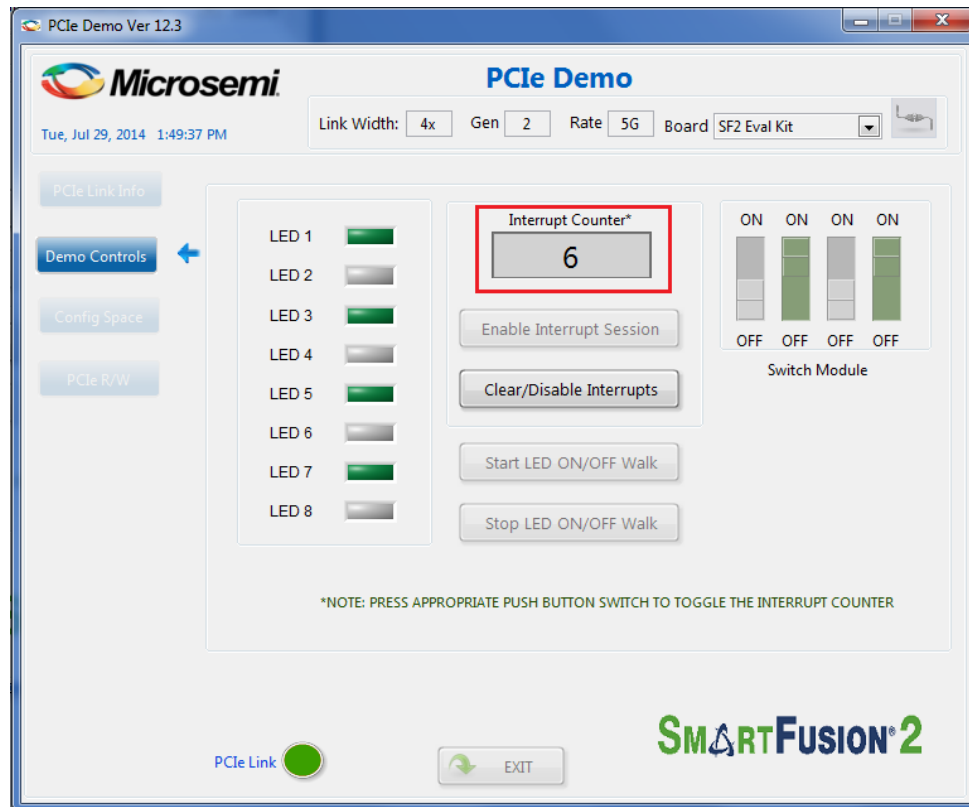

Figure 64 Interrupt Counter
11. Press the push button **SW4** on the SmartFusion2 Evaluation board and observe the interrupt count in the **Interrupt Counter** field, as shown in Figure 64.